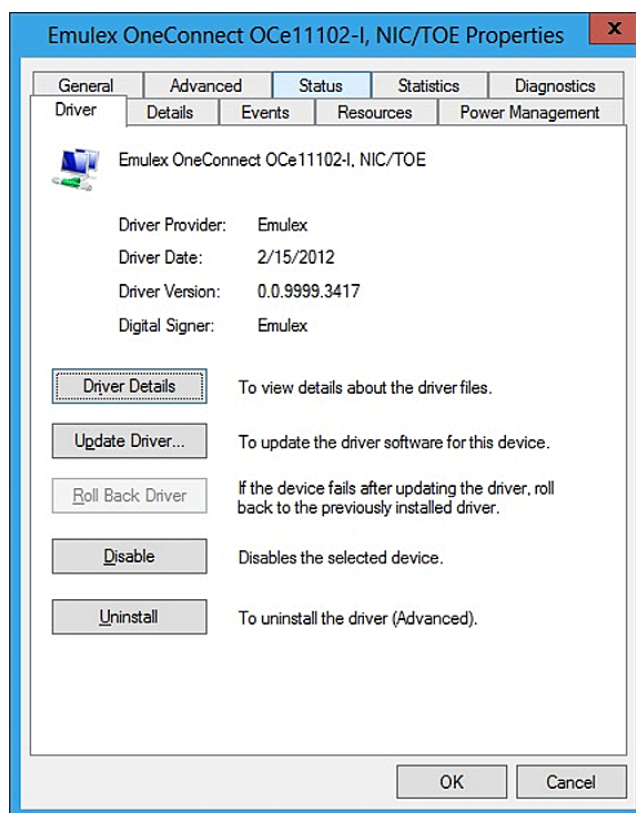

Figure 3-5 Emulex NIC Driver Properties Page
3. Open the **Network Adapters** item, find the Emulex device and right-click it. Select **Properties** from the context menu. The Properties dialog box opens showing the Driver page (see Figure 3-5 on page 82). The Driver page contains the driver version number.
3. Open the **Network Adapters** item, find the Emulex device and right-click it. Select **Properties** from the context menu. The Properties dialog box opens (see Figure 3-5 on page 82).
2. Open the **Network Adapters** item, select the Emulex device and right-click. Select **Properties** from the context-menu. The Properties dialog box opens showing the Driver page (see Figure 3-5 on page 82).